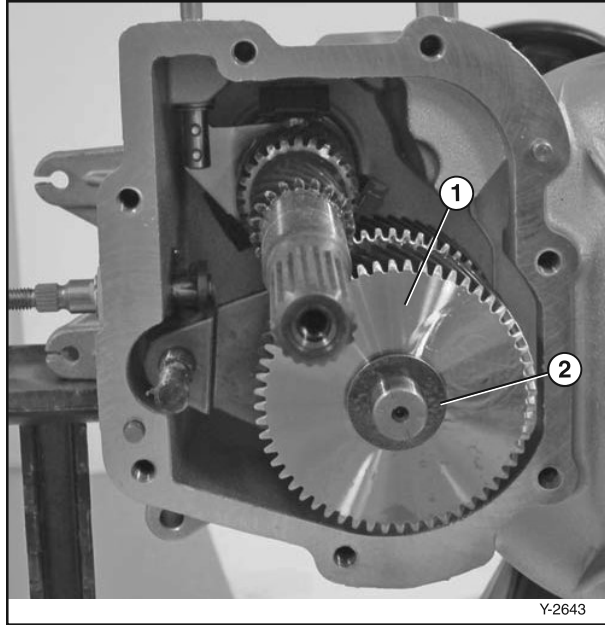

Figure 6-57
5. Install the reverse gear (Figure 6-57, (1)) and the washer (Figure 6-57, (2)).